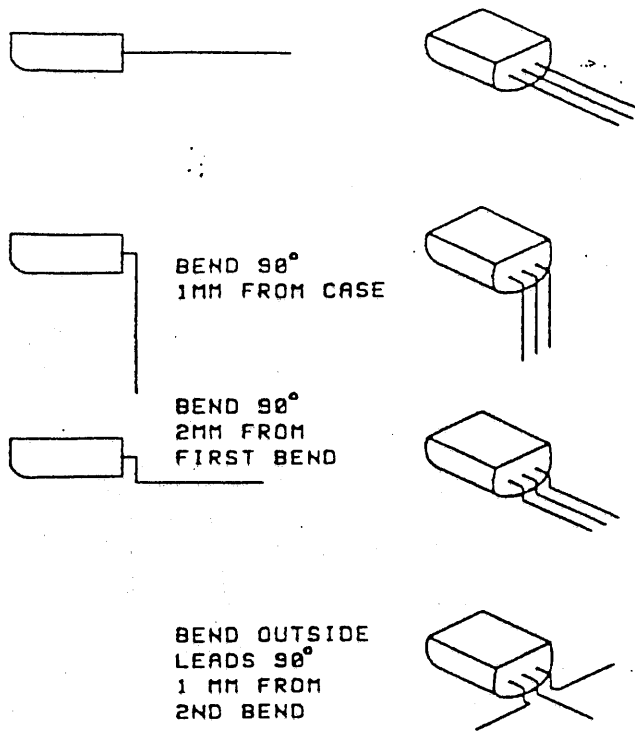

FIGURE 8
18. Prepare the NJM78L06A 6V AVR for installation as shown in **Figure 8**. The leads to this device are very soft and can break when bent too often. Make each bend only once.